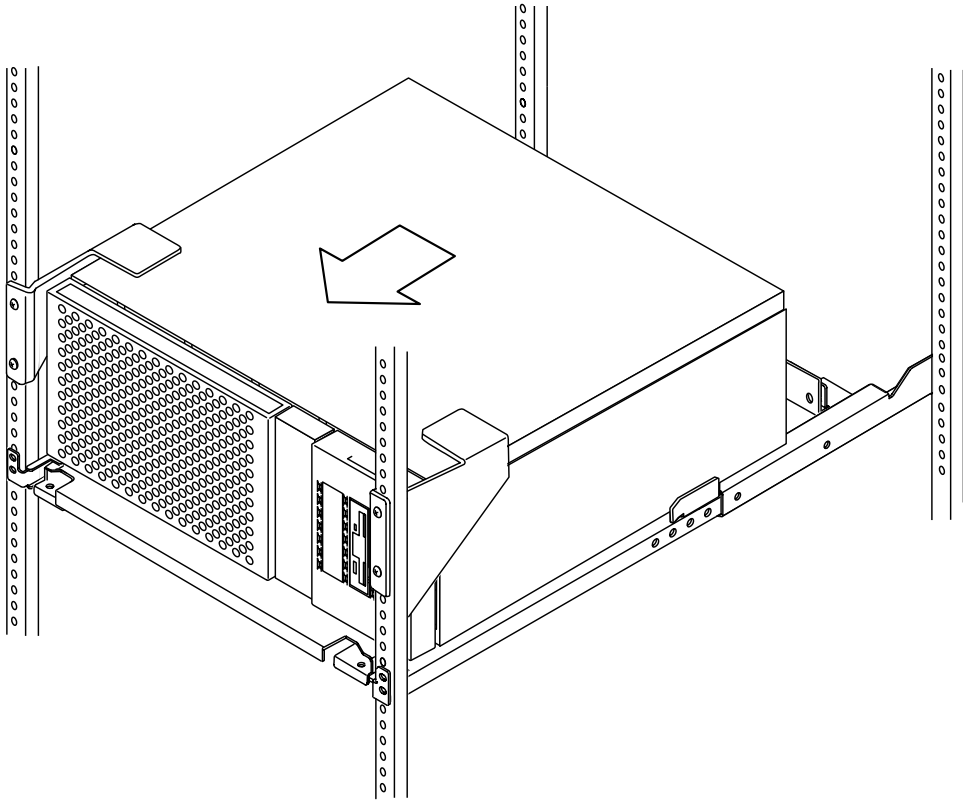

FIGURE 13 Sliding the Ultra 30/60 System into the Front Brackets
8. Slide the system forward on the rackmounting tray until it is tight against the front brackets (FIGURE 13).